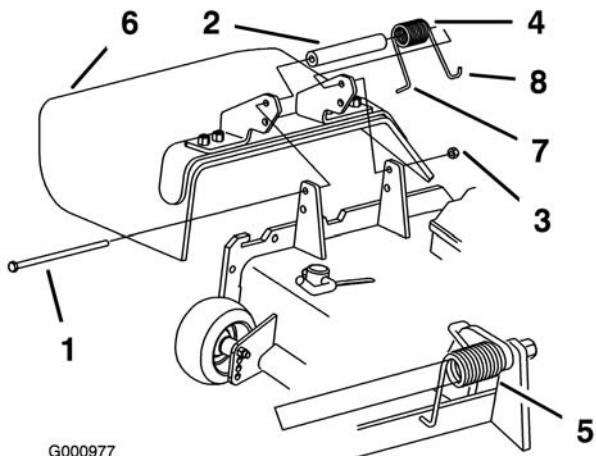

Figure 85
1. Remove the locknut, bolt, spring and spacer holding the deflector to the pivot brackets (Figure 85). Remove the damaged or worn grass deflector.
Note: Make sure the **L** end of the spring is installed behind the deck edge before installing the bolt as shown in Figure 85.
3. Install the bolt and nut. Place the **J** hook end of the spring around the grass deflector (Figure 85).